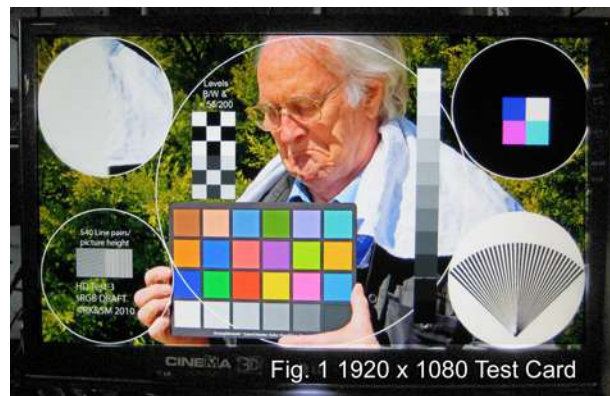

Fig. 1 1920 x 1080 Test Card
Figure 1 gives more details of the ideal spectrum shape of DVB-S and DVB-S2 transmissions, including the standardised 0.35 spectrum roll-off factor. The Horizontal (frequency) and Vertical (amplitude) axes have linear scales.
Obviously, for minimum transmitter out-of-band radiation, the in-band spectrum of the exciter should be as close as possible to the theoretical, shown in Figure 1, while the level of the exciter's out-of-band spectrum should be as small as possible.
2. It is a genuine 1920 x 1080 pixel display, unlike the Benq, which was 1920 x 1200 pixels. [see Fig.1]